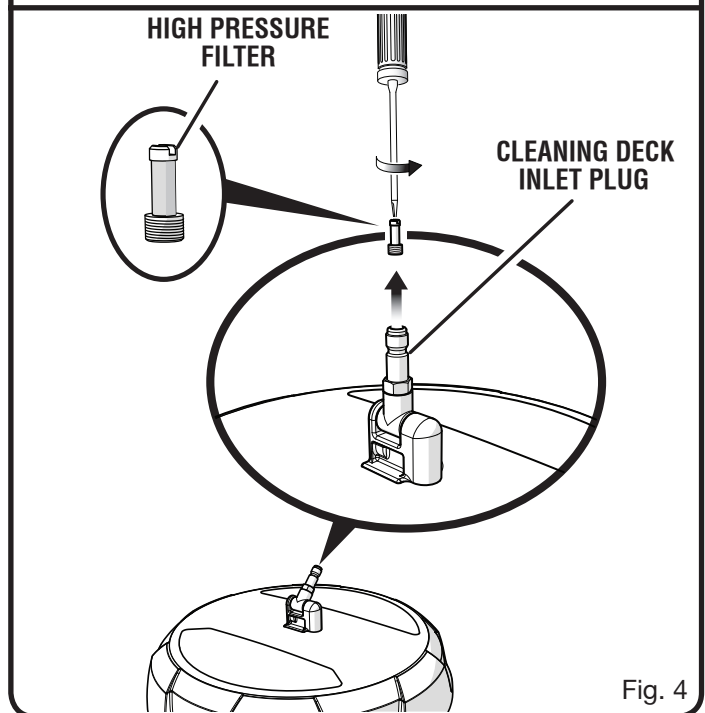

Fig. 4
See Figure 4.
- Place a flat head screwdriver in the slot of the high pressure filter inside the cleaning deck inlet plug, shown in figure 4, and turn counterclockwise. This will unscrew the filter and allow it to be removed.